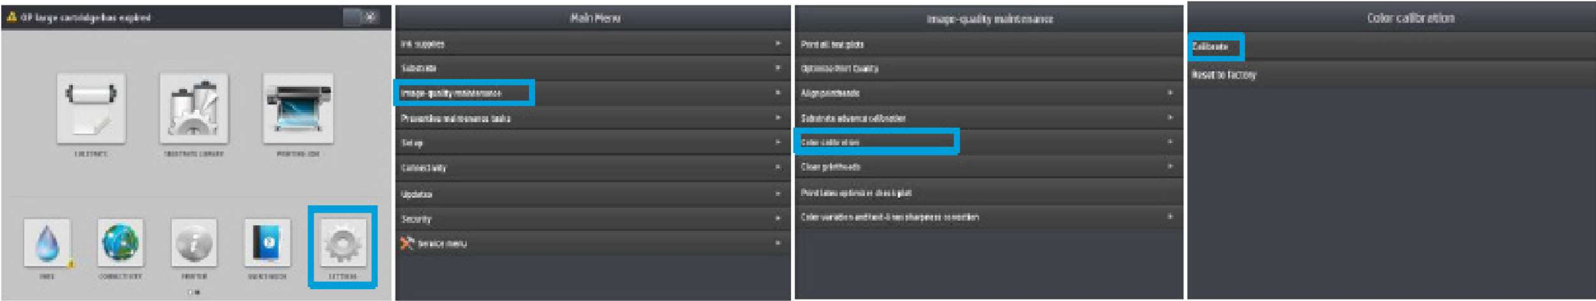

Figure 4. Screen navigation to perform color calibration.
- c. See Figure 4 for screen navigation to perform color calibration. Click: Settings > Image Quality Maintenance > Color Calibration > Calibrate.